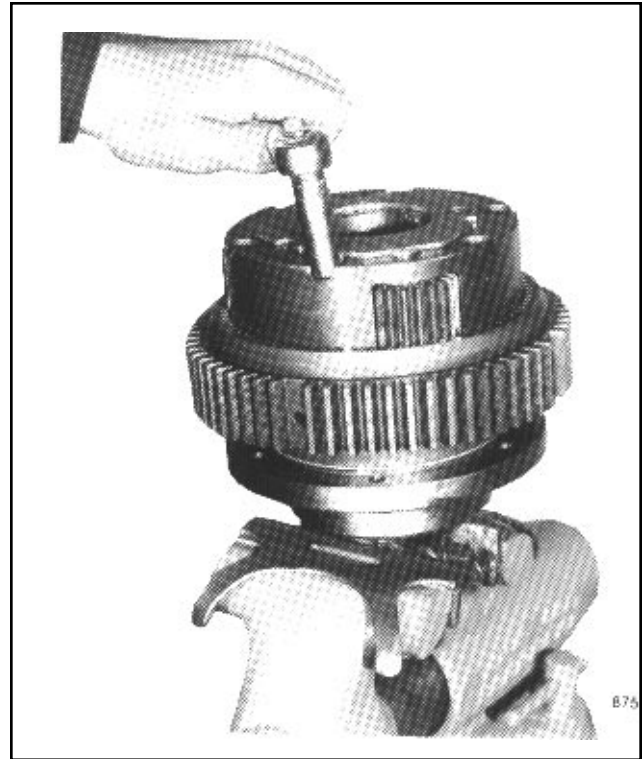

FIGURE 50. TIGHTENING THE CAPSCREWS
R. Install the three long and three short planetary gears. Use a light grease to hold the thrust washers in position on the planetary carrier. Put the planetary carrier over the gears. Install the capscrews and tighten to 20 foot pounds (27 N.m). Align the shafts and install the thrust plate. Use Loctite 290 and tighten the screws with an allen wrench to 86 inch pounds (0.97 N.m). See Figure 50.